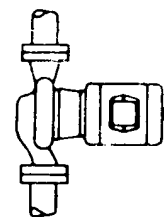

Fig. 1 Horizontal Installation
- (a) Pump mounted in horizontal position (Fig. 1)